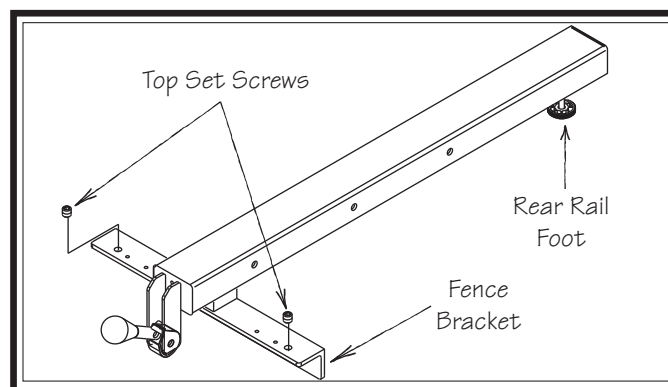

Figure 132. Fence components used to adjust fence height and squareness to table.
3. Adjust top set screws (**Figure 132**) on fence bracket to ensure fence face is 90° to table.